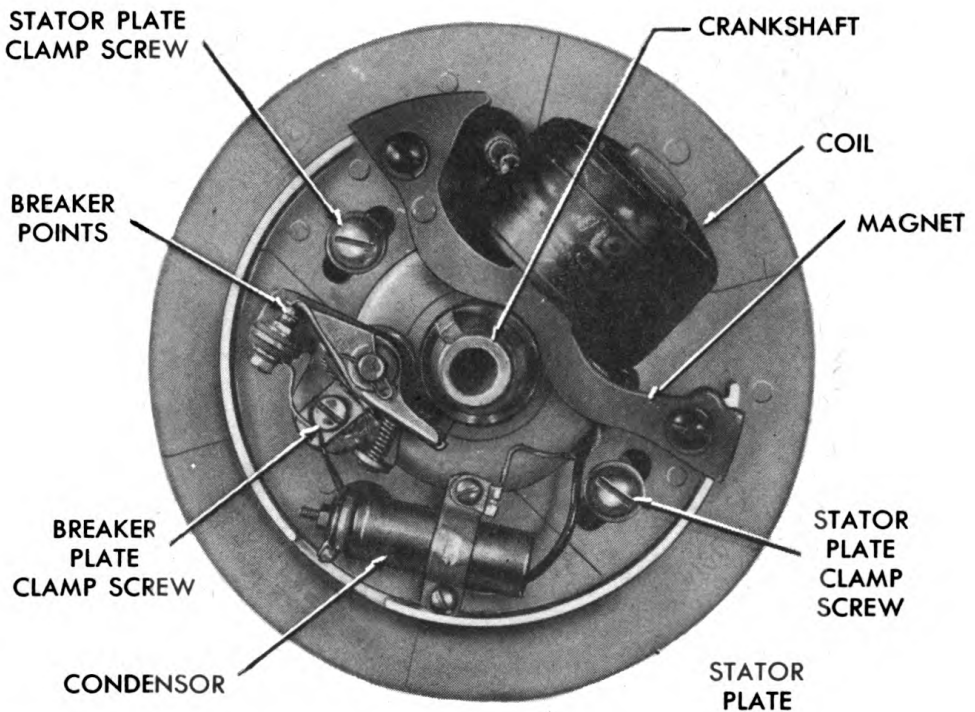

Figure 25—Magneto
c. Breaker Point Adjustment. (See figure 25.)
- (1) Unscrew and remove flywheel retaining nut, lock washer and starter pulley.
- (2) Tap end of shaft with lead mallet or block of hardwood to loosen flywheel; then remove flywheel.